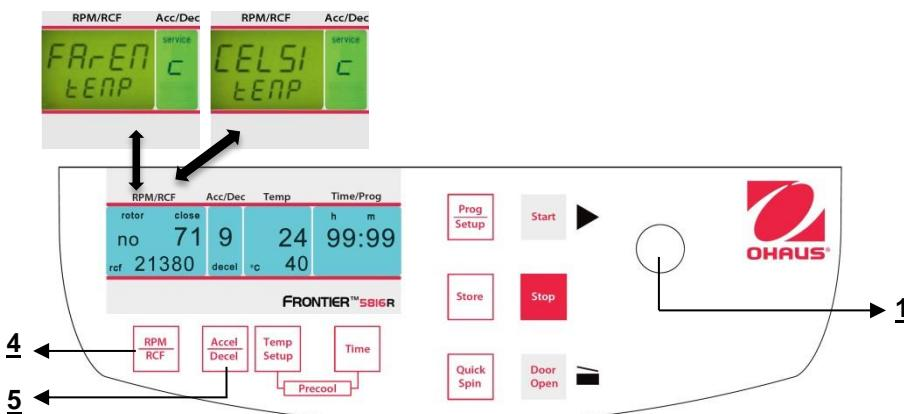

Figure. 31
Proceed as described under point 4.1.1 to enter this program mode and then press the key **"Accel/Decel"(5)**. In the display **"Acc/Dec"(A-2)** the word **"Service"** appears. Now select the letter **"C"** with the adjusting knob (1). As a result, in the display **"RPM | RCF"(A-1)**, the words **"CELSI/temp"** appear. If you press the key **"RPM | RCF"(4)**, the word **"CELSI"** flashes and you can change the display into Fahrenheit **"FAREN"**, with the adjusting knob (1) (See figure 31).